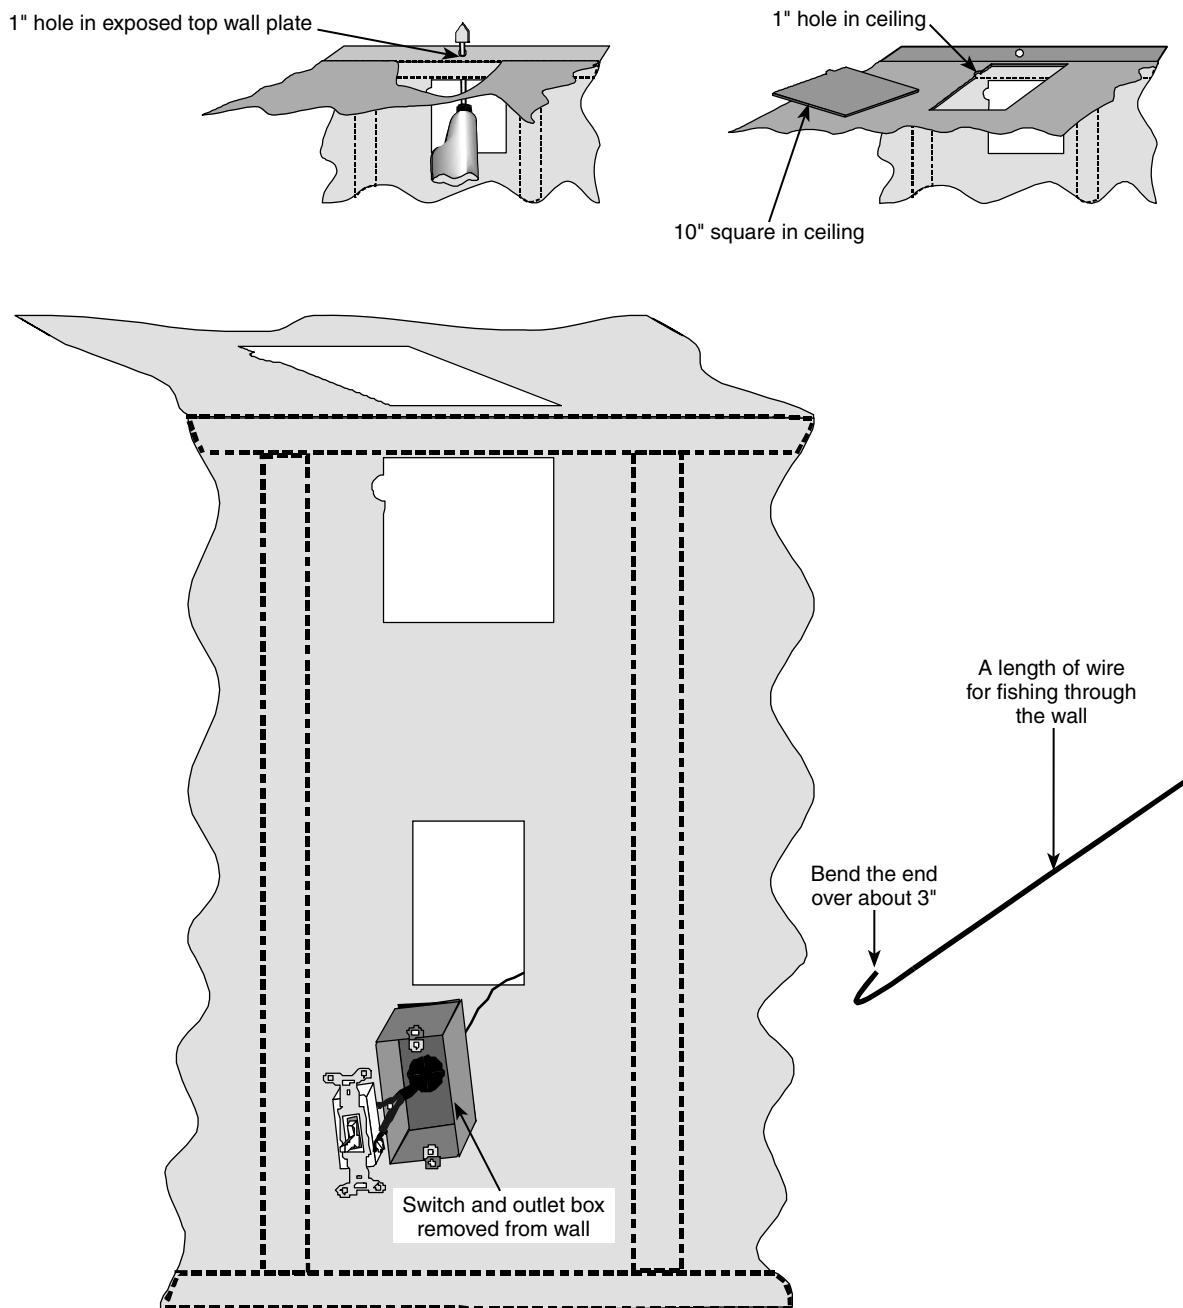

Figure 8-9
- Drill a 1-inch hole (as shown in Figure 8-9) through the exposed top wall plate to run the wiring up into the ceiling, and another 1-inch hole in the ceiling above where you drilled in the wall.